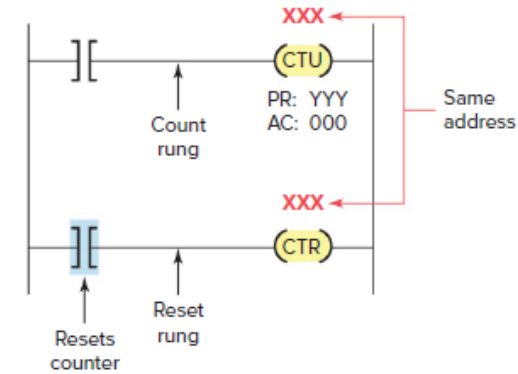

Figure 8-5 Coil-formatted counter and reset instructions.
- Figure 8-5 shows a **coil-formatted** counter instruction with a separate instruction for resetting the counter.